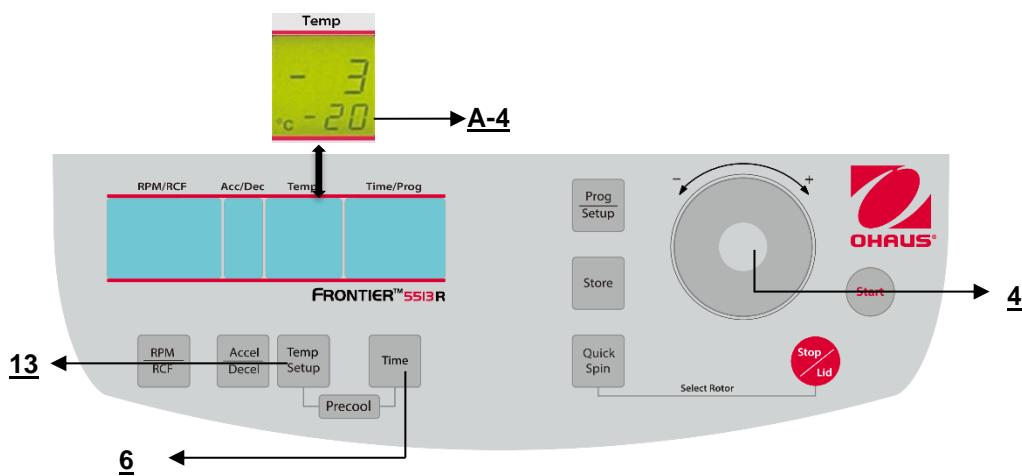

Figure. 16
The value is indicated permanently in the display (figure 16) - before, during and after the run.
Close the lid, then press the key "**Time**" (7) (refer to figure 16) and the key "**Prog/Setup**" (3) at the same time and hold them.